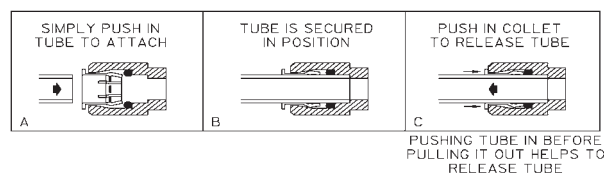

FIG. 2
3. Connect fountain to supply line with a shut-off valve and install a 3/8" unplated copper water line between the valve and the cooler. Remove any burrs from outside of water line. Push the tubes straight into the fittings until they reach a positive stop, approximately 3/4" (see Fig. 2). **DO NOT SOLDER TUBES INSERTED INTO THE STRAINER AS DAMAGE TO THE O-RINGS MAY RESULT.**
**Actuation of Quick Connect Water Fittings:** Fountain is provided with lead-free connectors which utilize an o-ring water seal. To remove tubing from the fitting, relieve water pressure, push in on the gray collar while pulling on the tubing. (See Fig.2) To insert tubing, push tube straight into fitting until it reaches a positive stop, approximately 3/4".